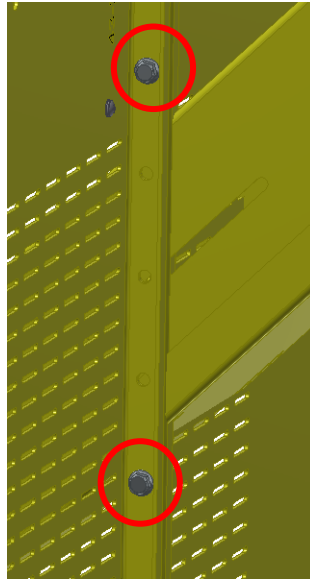

Figure 30: Machine Guard Rope Panel Bolts
- If the Machine Guard Rope Panels (p/n's \_ \_-237 & \_ \_-238) are notched, install the provided 1/4-20 hardware as shown below (Figure 30). Install one set of hardware below the notch and one set of hardware above the notch. For some roping configurations hardware will not be able to be installed below the notch.